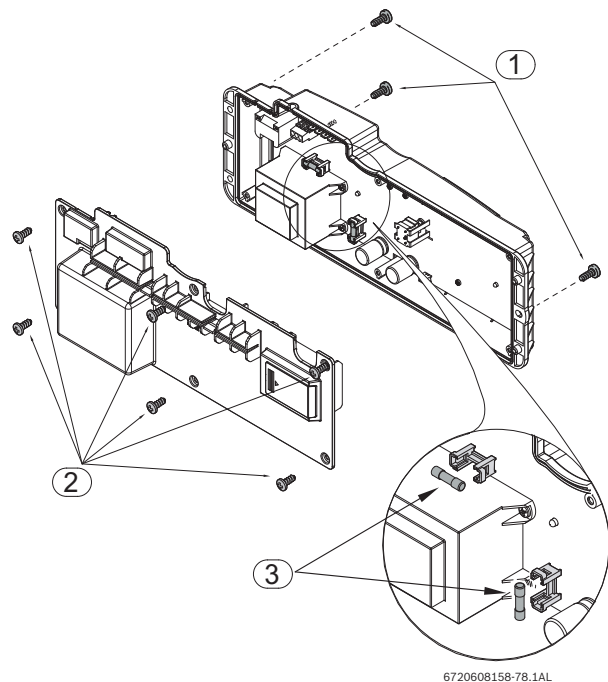

Fig. 47 Fuses position
- Remove the six screws from the back cover of the control unit, see Fig. 47, pos. 2.
- Check the fuses on the printed circuit board, see Fig. 47, pos. 3.